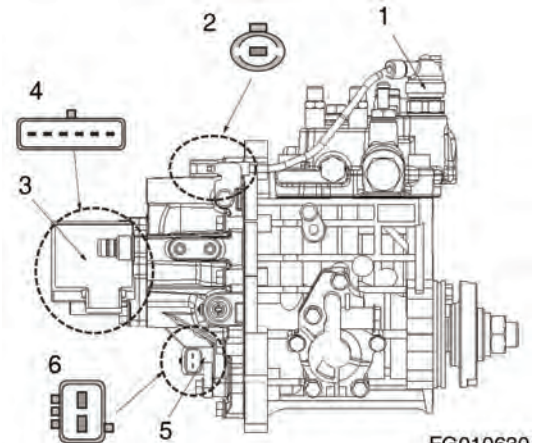

Figure 244
- When the cold start device is activated, you may notice a slight increase in the exhaust smoke of the engine during engine warm-up. Electronically controlled engines 4TNV98-E use a cold start device (CSD) that consists of a fuel injection pump complete with a solenoid valve (1, Figure 244).
Electronically controlled engine 4TNV98-Z is quipped with an electronically controlled governor called "Eco Governor". Combined with the rack actuator (3, Figure 244), engine speed sensor (5, Figure 244), and other parts, the electronically controlled governor communicates with the engine controller (E-ECU), whereby the engine speed and fuel injection rate are controlled.